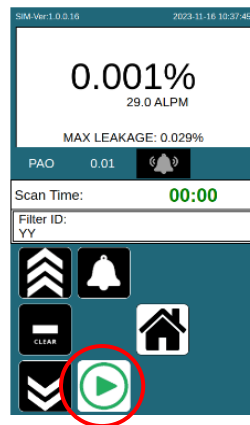

Figure 11. Begin recording
**Step 4.** To begin saving scans, press the green “Play” key (Figure 11)